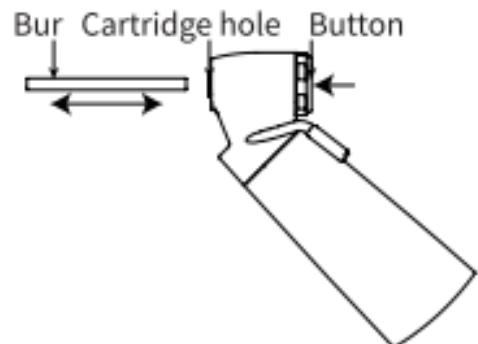
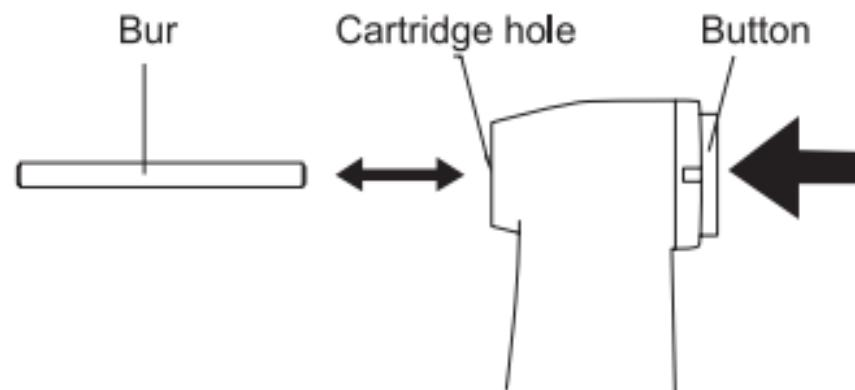

Fig.3
Fig.4
2.3.1 Insert the bur into the hole of the cartridge, as shown in Fig. 3 or Fig. 4.